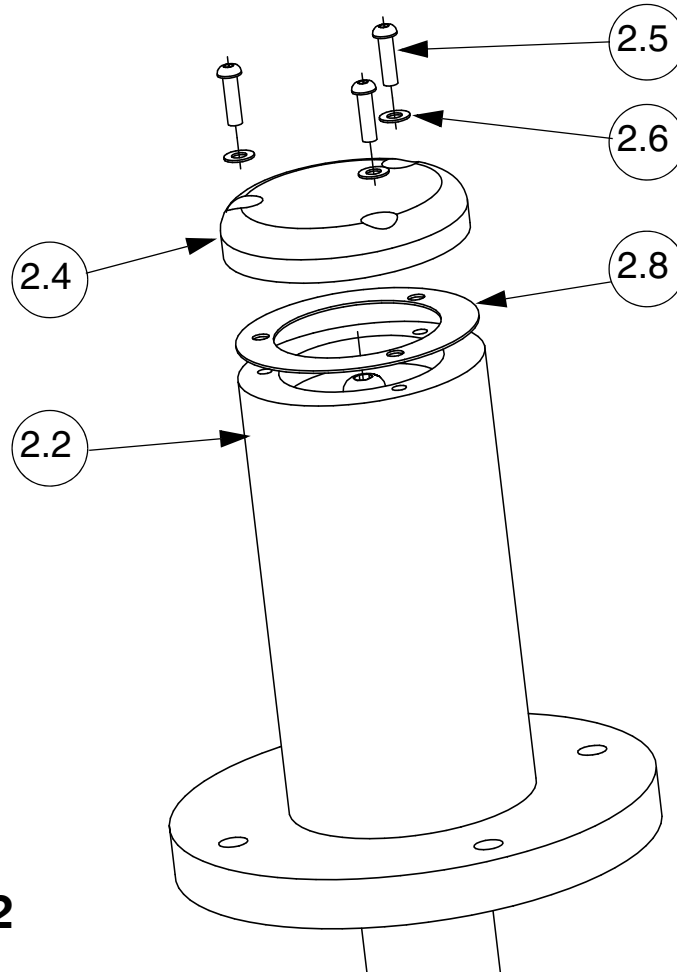

FIG.12
- i) Dis-assemble the Shaft/Bearing Assembly by removing the M6 x 20 Resistorx bolts (items 2.5) and Washers (items 2.6) holding the Poly Upper Cover (item 2.4) and Gasket (item 2.8) in place. (FIG.12).
xii) Position Gasket (item 2.8) and the Poly Upper Cover (item 2.4) onto the Bearing Assembly (item 2.2) as shown and secure using 3 off M6 x 20 Resistorx bolts (items 2.5) and Washers (items 2.6). (FIG.12).